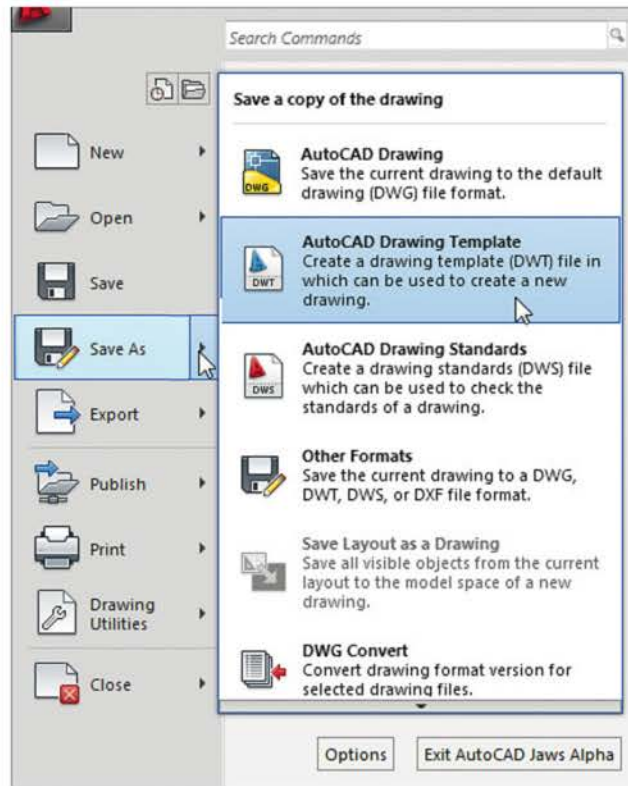

Fig. 5.19 Calling Save As
1. *Left-click* on **Save As** in the menu appearing with a *left-click* on the AutoCAD icon at the top left-hand corner of the screen (Fig. 5.19).